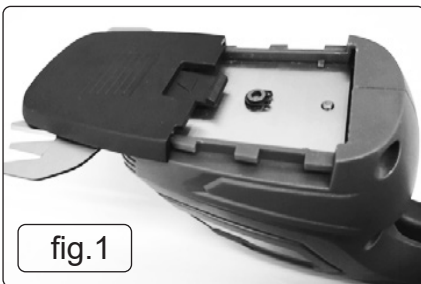

fig.1
4.2.1. Set the tool on its back to expose the plastic cover (fig.1). Depress the tab and slide the cover forwards and away from the tool.